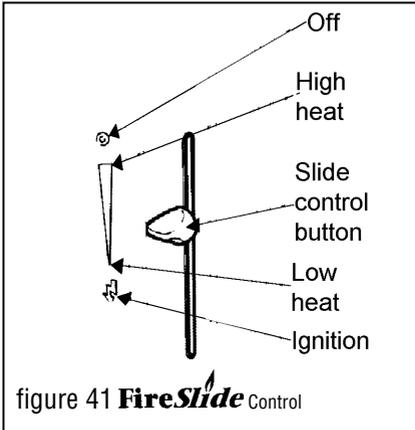

figure 41 FireSlide Control
The control position markings on the front surround are shown in figure 41 Please note
- 12.1.5** Gradually slide the button up to increase the burner setting. The burner should be at its maximum setting at the high heat position shown in figure 41. You should feel a check to the button movement at this position.